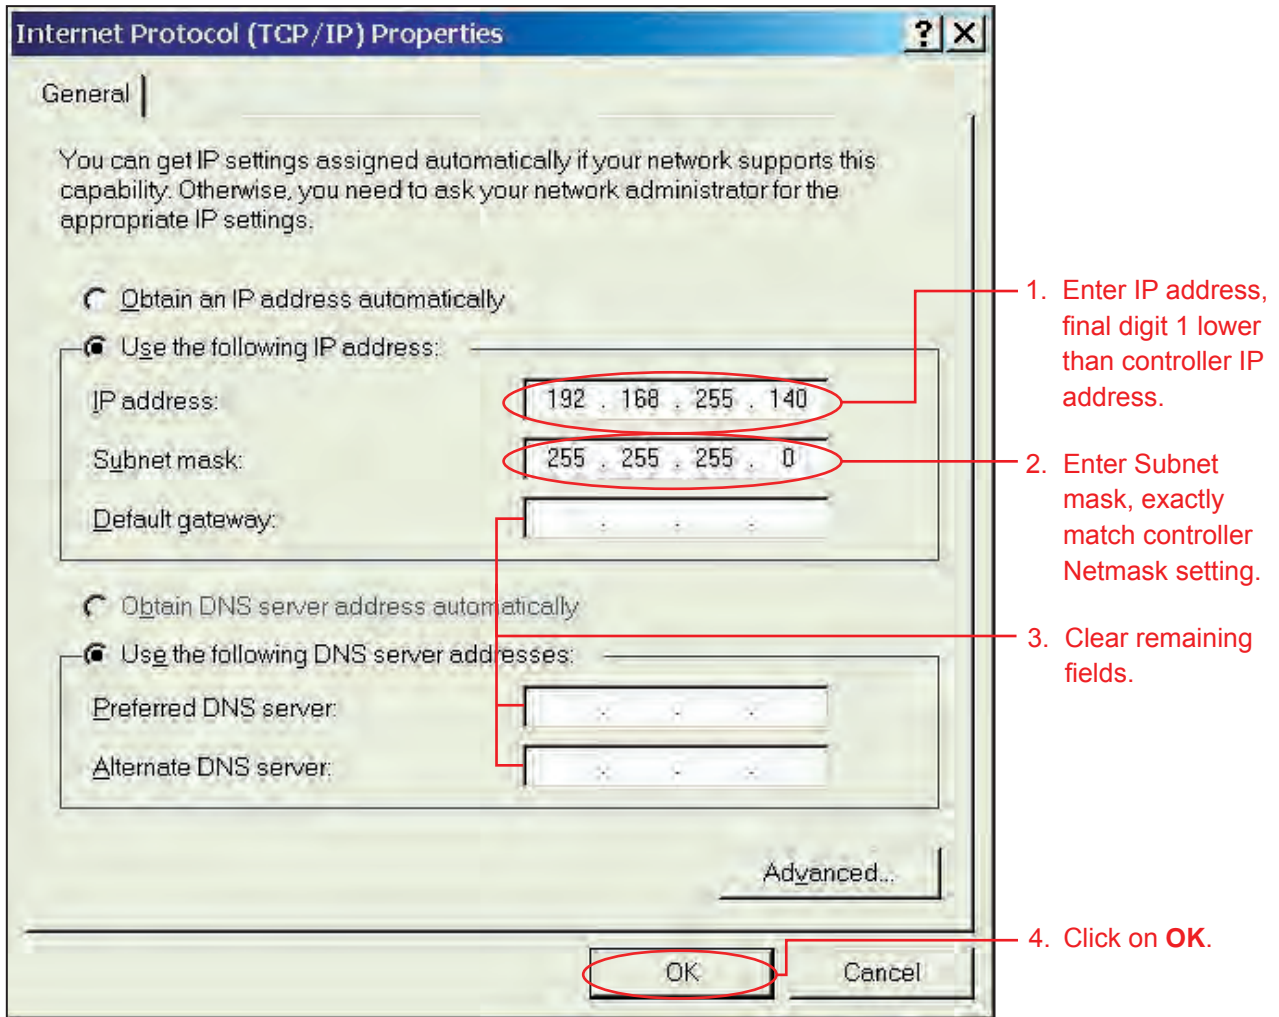

Figure 4-5. Changing The IP Address On The Local Computer.
8. Enter an IP address that matches the controller's IP address with the final digit one digit lower (Example: Controller Factory Set IP is 192.168.255.141; New IP is 192.168.255.140). See Figure 4-5.
9. Enter a subnet mask that matches the controller's Netmask exactly. The controller's default Netmask setting is 255.255.255.0 (Figure 4-5).
10. Erase all other fields on the screen (Figure 4-5).
11. Click **OK** (Figure 4-5).